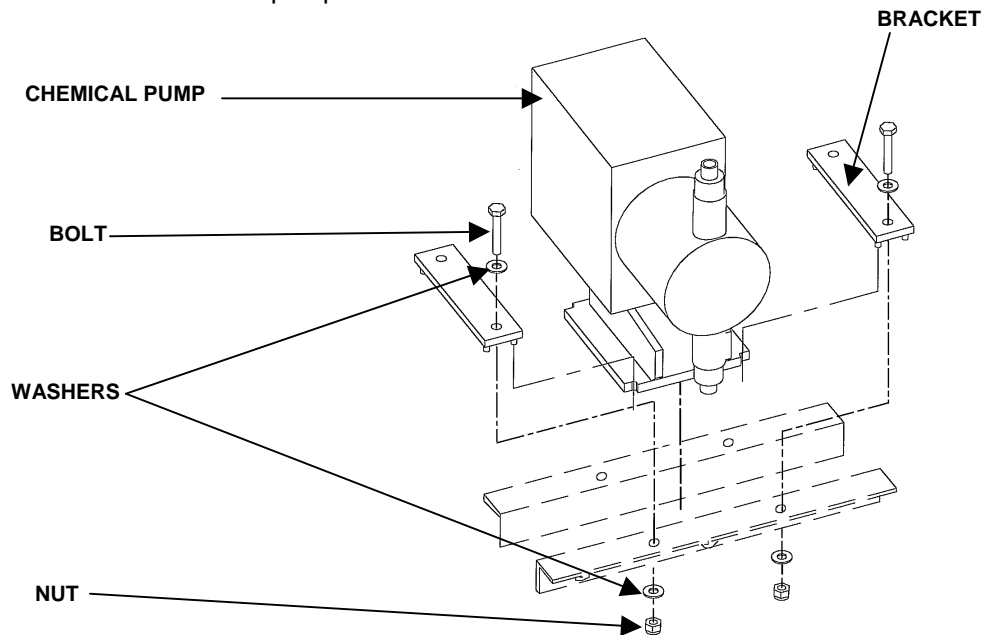

Figure 3. Chemical Pump Mounting Brackets.
9. Remove four nuts, bolts, and washers, and two mounting brackets securing chemical pump to the module. See Figure 3.